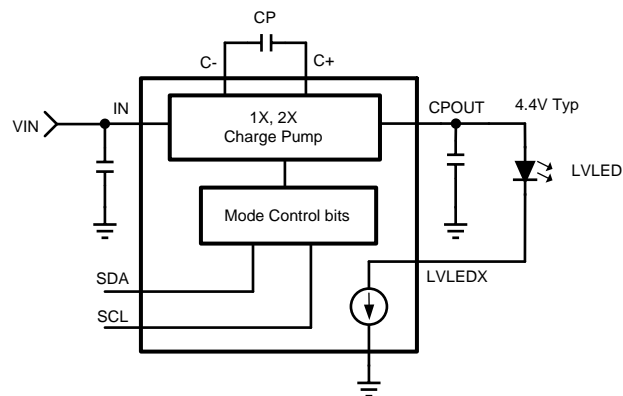

Figure 5. Integrated Charge Pump
The LM3533 features an integrated (2x/1x) charge pump capable of supplying up to 150mA. The fixed 1MHz switching frequency allows for use of tiny 1 $\mu$ F ceramic flying capacitors (CP) and output capacitor (CPOUT). The charge pump can supply the power for the low-voltage LEDs connected to LVLED1-LVLED5 and can operate in 4 different modes: disabled, automatic gain, 1X gain, or 2X gain (see Figure 5).